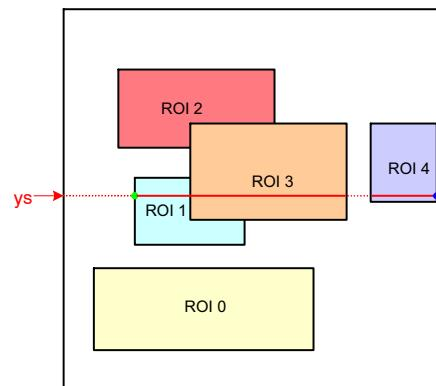

Figure 26. Scanning the Image Array with Five Windows
Figure 26 illustrates a practical example of a configuration with five windows. The current position of the read pointer (ys) is indicated by a red line crossing the image
- The read pointer is not necessarily incremented by one, but depending on the configuration, it can jump in y-direction. In Figure 26, this is the case when reaching the end of ROI0 where the read pointer jumps to the y-start position of ROI1